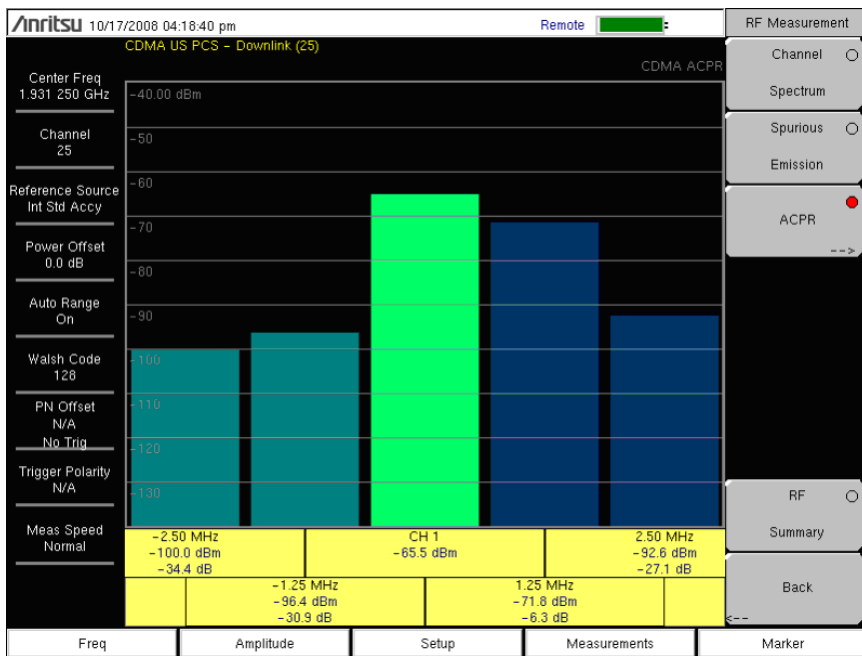

Figure 2-5. RF Measurement, ACPR
2. Press the ACPR submenu key to activate the ACPR measurement (Figure 2-5). The red dot on the submenu key indicates that it is selected.